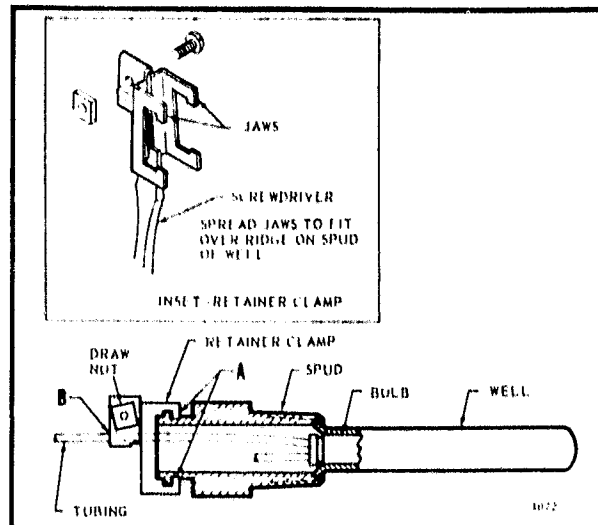
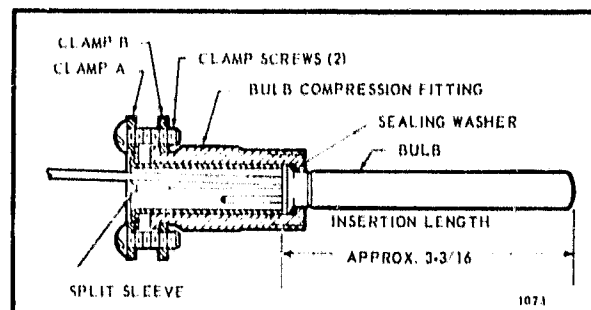
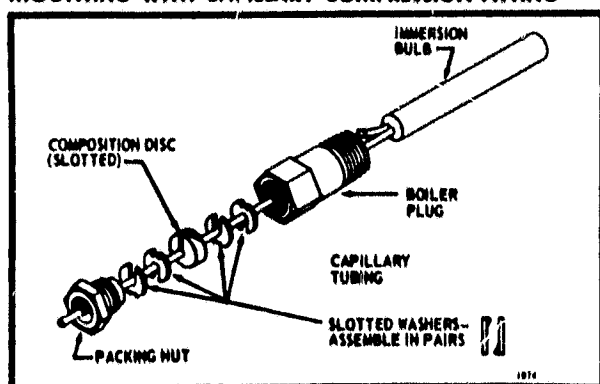

FIG. 5—IMMERSION WELL FITTING.
FIG. 6—BULB COMPRESSION FITTING. USE WITH MODEL L4008A,B,E,J, OR L6008A.
FIG. 7—CAPILLARY COMPRESSION FITTING. USE WITH MODEL L4000C,D,K, OR L6000C,E.
**Bulb Compression Fittings (see Fig. 6) —**
**Capillary Compression Fittings (see Fig. 7) —**
The remote temperature-sensing bulb can either be installed in an immersion well (Fig. 5) that extends into the boiler or tank, or it can be directly immersed in the liquid. For installations not using a well, secure the remote bulb with a bulb compression fitting (Fig. 6), or capillary compression fitting (Fig. 7).
Well, bulb compression fitting or capillary compression fitting must be ordered separately. Sizes available: 1/2 in., 3/4 in. NPT spud. Well, if used, must fit sensing bulb snugly for good thermal response. Insert bulb until it rests against bottom of well, then hold it there while tightening the tubing clamp. (See Fig. 5.)
4. Place composition disc and 4 slotted brass washers on tubing in the order shown in Fig. 7. Turn brass washers so that slots are 180 degrees apart.